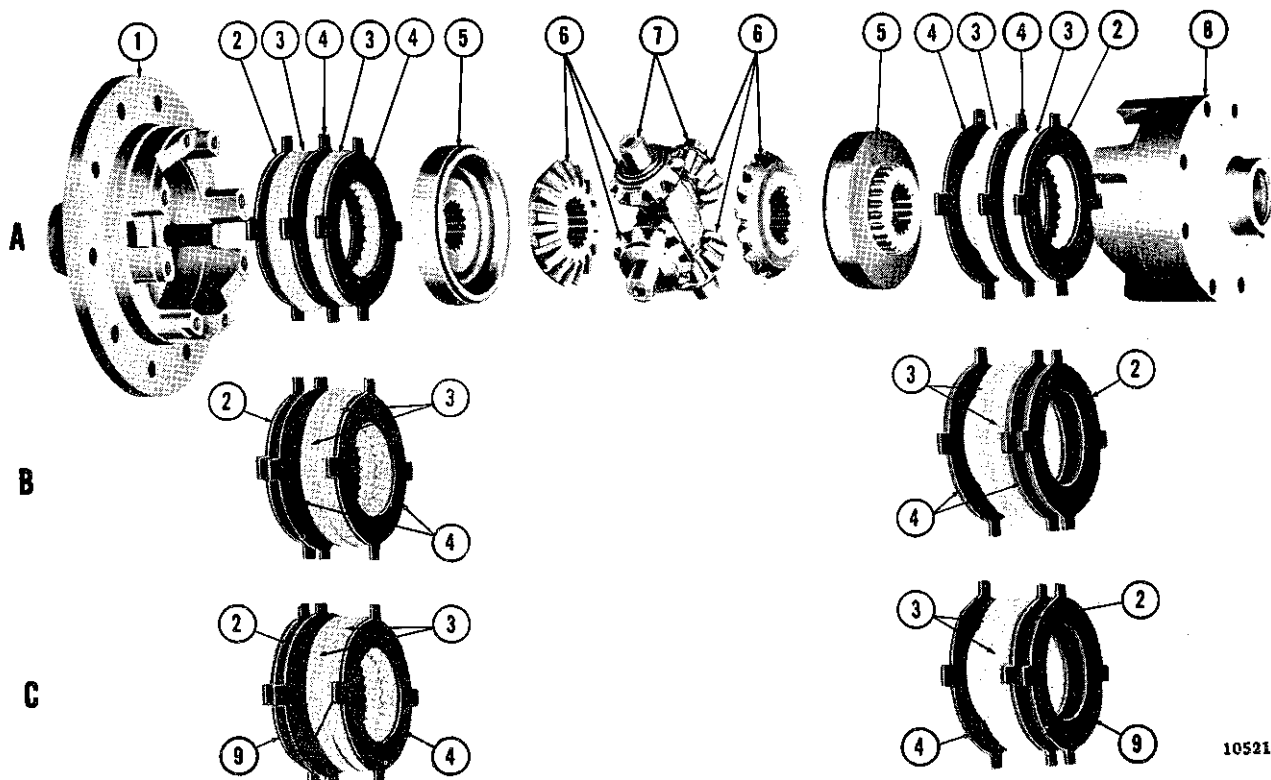

FIG. 293—POWR-LOK DIFFERENTIAL
The disc type also has been produced with two different types of friction plate and disc sets or clutches. In the early disc type, all plates and discs were the flat type. The late disc type have Bellville or dished plates in the plate and disc sets; one dished plate in each set. (See Fig. 293).
c. Remove clutch friction discs and plates. Care should be taken to see how the friction plates and friction discs and dished plates are assembled. The illustration (Fig. 293) shows the arrangement of plates and discs used for current production model Powr-Lok differentials. Earlier production differentials will have a different arrangement, and a different number, of plates and discs. If the plates and discs are not to be replaced, they will be reinstalled in their original arrangement. If the plates and discs are to be replaced, the new plates and discs will be installed with the arrangement shown in Fig. 293.
**IMPORTANT** — When installing a new plate and disc set (with dished plates) in a Model 25 differential which did not have dished plates as original equipment the  $\frac{1}{16}$ " dead plate must be removed (See Fig. 293). In such cases, if there is any indication of differential case wear, complete differential replacement rather than attempted repair is recommended.
**f.** Assemble the clutch friction plates, clutch friction discs, and dished plates, on the splined hub of each bevel side gear. Make sure the plates and discs are installed according to their original arrangement, or Fig. 293 if the new plate and disc set is used. The dished plates in the plate and disc set, are always assembled with the convex side toward the case. As each part is reassembled in its proper position, it is necessary that it be lightly coated with Willys "Powr-Lok" Differential Oil, Part No. 94557.